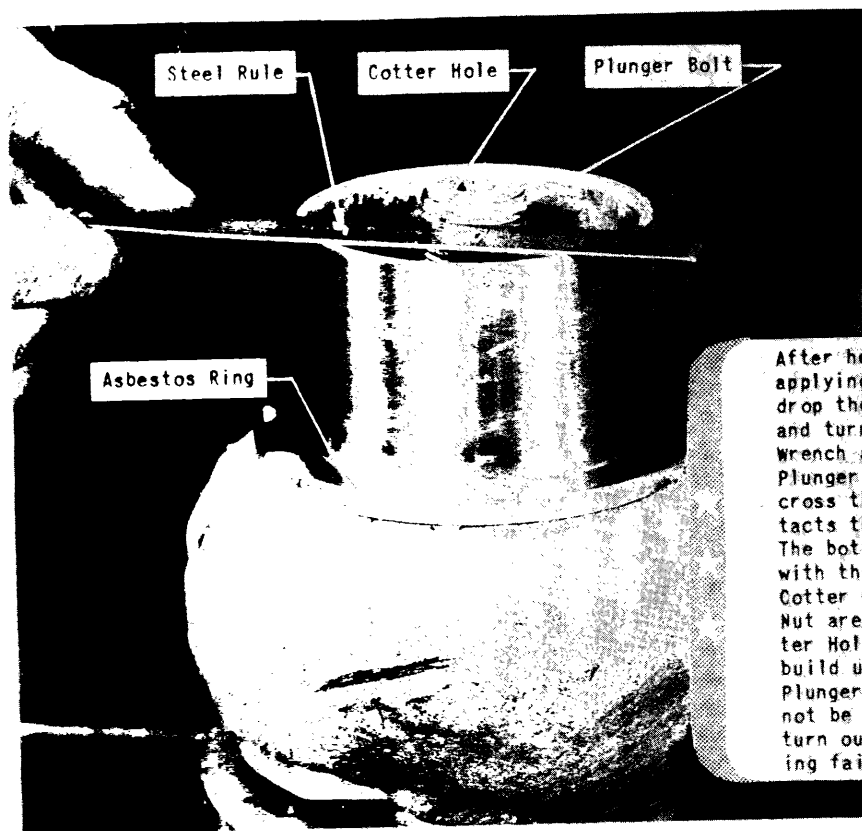

Figure 167 - Checking Cotter Hole Location in Plunger
(11) Place a steel rule on the top of the cylinder to see if the plunger has the proper protrusion above the cylinder. The bottom of the cotter hole in the plunger should be flush with the top of the steel rule. If the protrusion is not sufficient the plunger must be removed and more solder applied to build up the cylinder flange or another plunger installed. It is imperative that the cotter hole in the plunger comply with the above measurement or it will be impossible to safely the plunger nut when the upper trunnion cap and nut are installed. (See figure 167.)